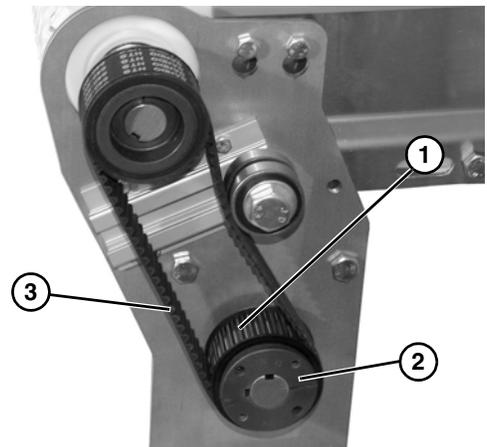

Figure 21
If drive pulley (**Figure 21, item 1**) is replaced, wrap timing belt around drive pulley and complete step 3.
- Remove pulley (**Figure 21, item 1**), taper hub assembly (**Figure 21, item 2**), and timing belt (**Figure 21, item 3**).